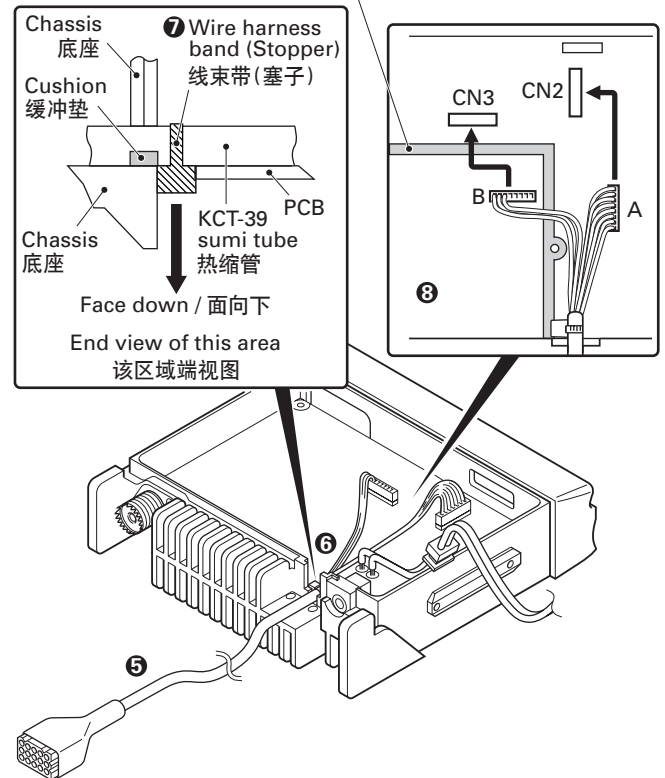

Fig. 5 / 图5
3. Insert the KCT-39 cable (❺) into the chassis (❻). The wire harness band (❼) must be inside the chassis and face down.
4. Connect the KCT-39 to the TX-RX unit as shown in Figure 5 (❸).
3. 将KCT-39电缆 (❺) 插入底座 (❻)。线束带 (❼) 必须面向下置于底座中。
4. 如图5所示,将KCT-39连接到TX-RX装置 (❸)。